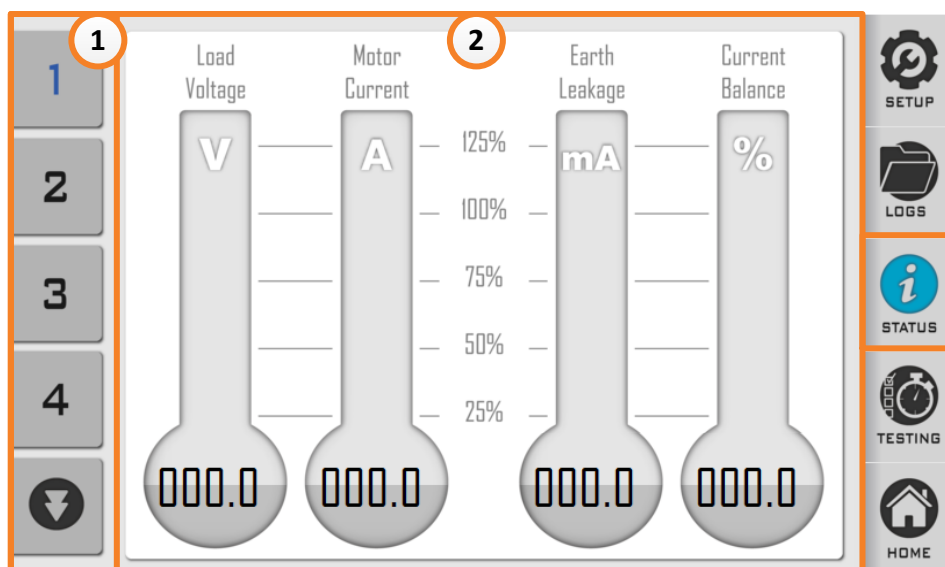

Figure 33: Rockstarter UI – Status Screen
The STATUS interface (Figure 33) displays an overview of the status of the outlet as well as system information including serial numbers, hardware, software and firmware versions. The buttons located on the left of the image (item 1) allow the user to navigate through the status pages. Refer to Table 9 for an overview of the information contained within this menu. All pages from 7 onwards present raw data and is anticipated for Ampcontrol diagnostic use.